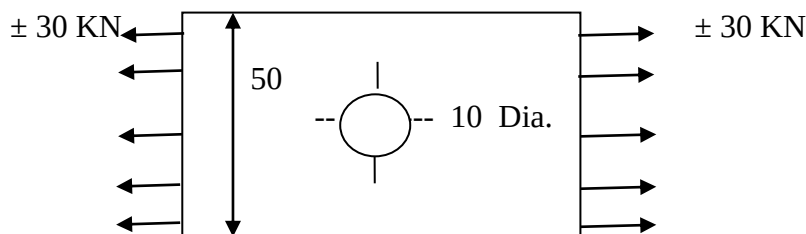

Figure 2. (All dimensions are in mm)
- B) A plate made of steel 20C8 ($S_{ut} = 400 \text{ N/mm}^2$) in hot rolled and normalized condition is as shown in the Figure 2. It is subjected to completely reversed axial load of 30 kN. The notch sensitivity factor can be taken as 0.8 and the expected reliability is 0.85. The factor of safety is 2. Determine the plate thickness for infinite life. Use the below data if required